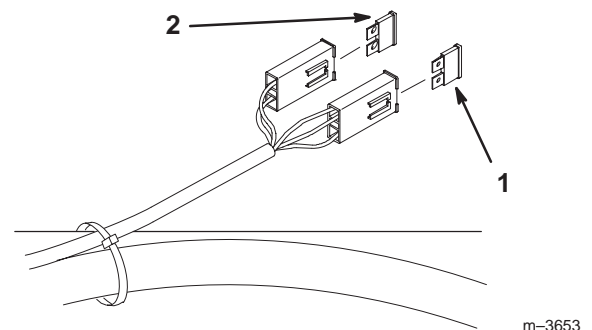

Figure 51
1. Raise the seat to gain access to fuse holder (Fig. 51).
2. To replace fuses pull out on the fuse to remove it (Fig. 51).